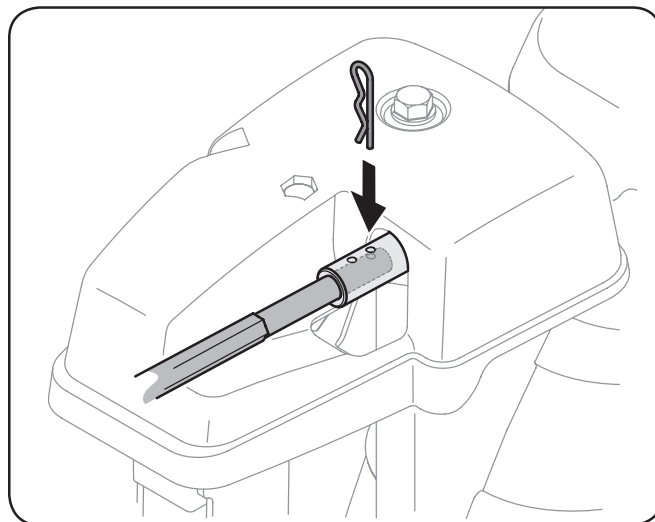

Figure 3-11
7. Push the chute control rod toward the control panel until the hole in the chute control rod lines up with the closest hole in the chute rotation assembly and insert the cotter pin. See Fig. 3-11.